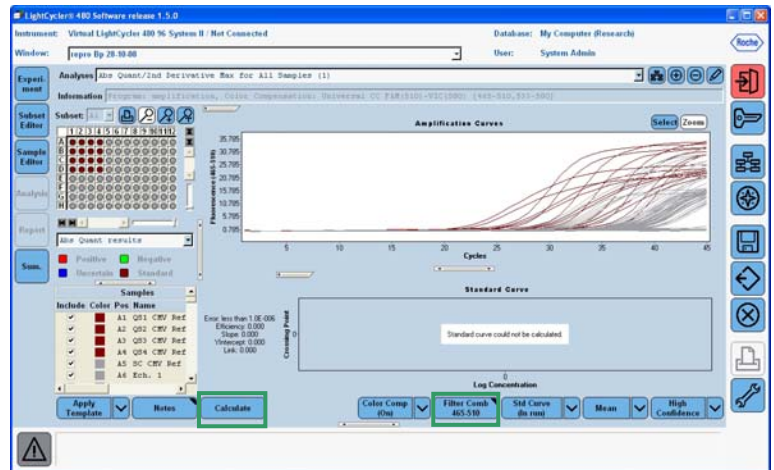

FIG. 14
- Click on **FILTER COMB** and choose **FAM (465-510)** (Fig.14)